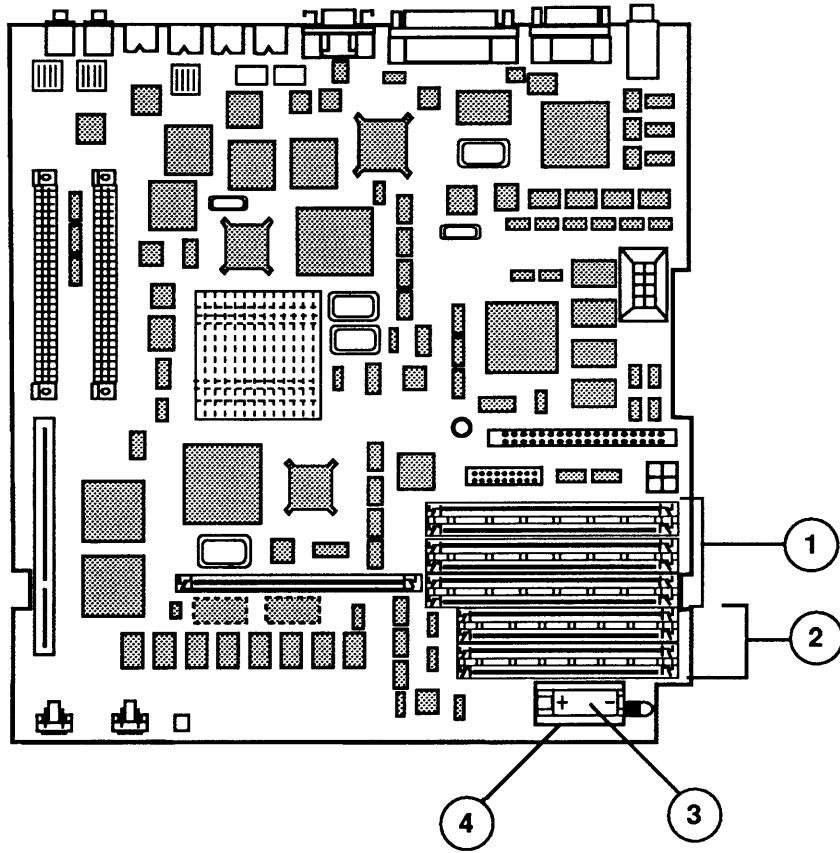

Figure 7 Macintosh Quadra 700 – Logic Board
□ **MACINTOSH QUADRA 700 – LOGIC BOARD (Figure 7)**